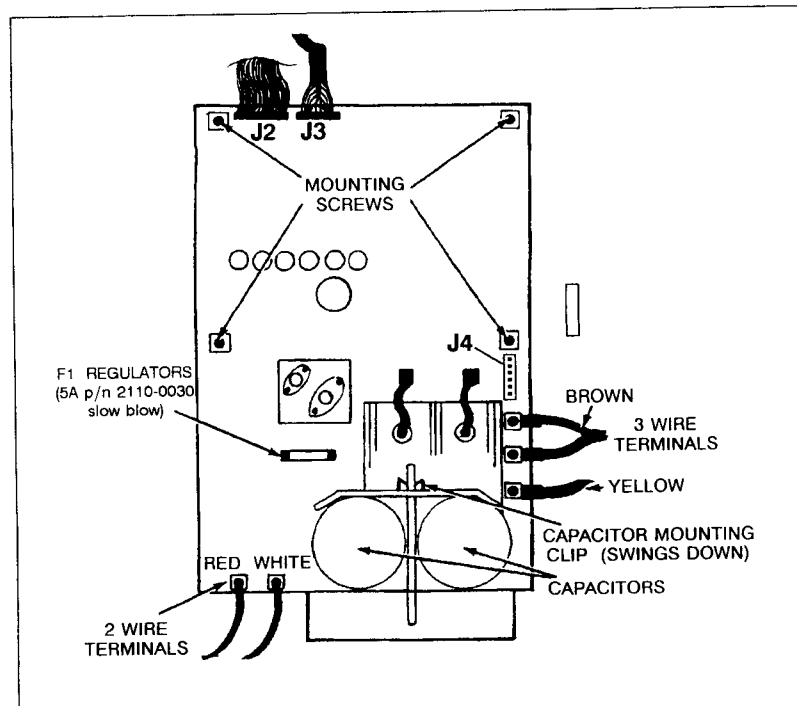

Figure 6-10. Power Supply PCA
- b. On the Power Supply PCA, loosen the wing nut securing the mounting clip for the two large capacitors (see Figure 6-10) and swing the clip downward and out of the way.